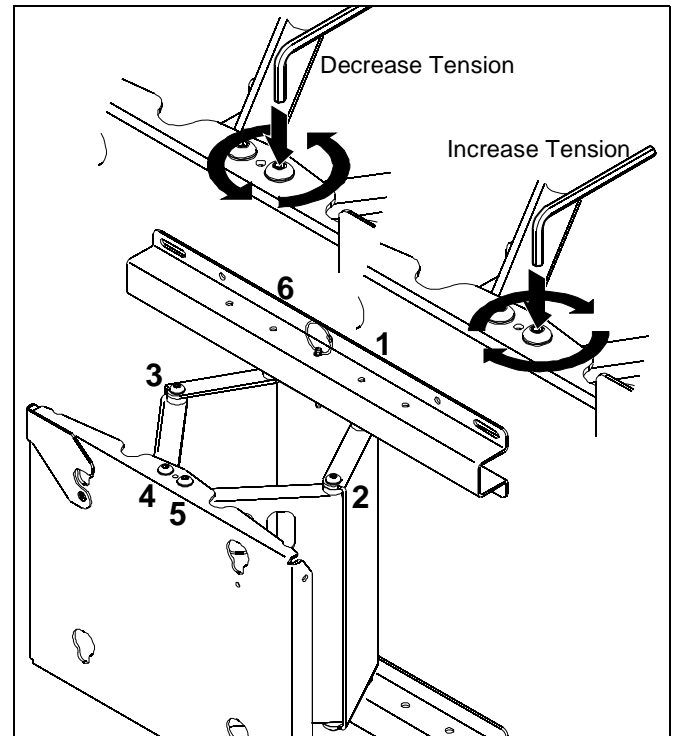

Figure 9
There are a total of 12 tension adjustment points on the mount (See Figure 9). Six on mount top, and six on mount bottom. Points 1 through 6 control mount extension and retraction tension. Points 1 and 6 control mount right left swing tension, and points 3 and 4 control display left right rotation tension.
**NOTE:** It is important that corresponding points are adjusted equally. **Example:** 1 and 6, 2 and 5, 3 and 4, and their corresponding adjustment points on mount bottom (See Figure 9).
2. Using the hex wrench provided, tighten or loosen adjustment screws until desired tension is achieved (See Figure 9).